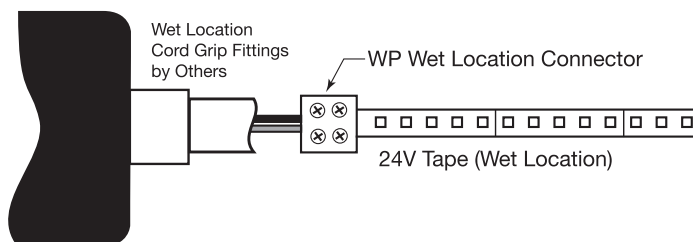

FIG. 3
3. CONNECTING TO LINE VOLTAGE. Connect incoming 120/277V power (Black = line hot, White = neutral, Green = ground). **(FIG. 3).**
4. COMPLETING CONNECTIONS. Align corners of clean gasket with corners of cover plate and press into place completely. Gasket must be in place to provide a water tight seal. Repeat for other cover by placing cover over opening with gasket in place. Install 4 screws per cover to secure. Do not overtighten. **(FIG. 3).**